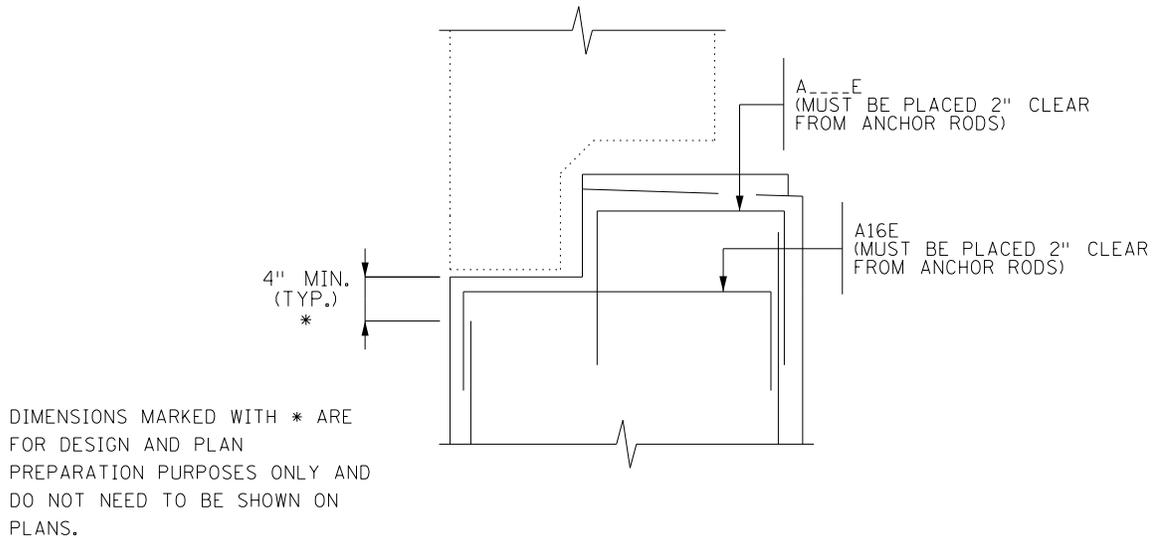

Figure 5
1. For semi-integral abutments, the bars labeled A__E in Figure 5 are designed bars. They must be designed to resist the force from the shear lug when the end diaphragm is engaged. They should be spaced all along the length of the abutment, even under the pedestals. They are not replacements for pedestal tie bars.